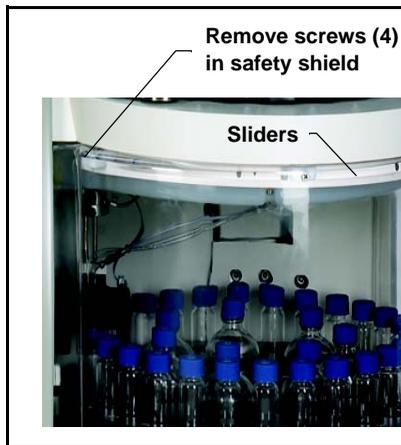

Figure 5-19. Removing the Safety Shield
4. Use a Phillips screwdriver to remove the four screws along the top of the safety shield (see Figure 5-19). (The screws attach the shield to the sliders.) Remove the safety shield and set it aside. **Do not move the sliders.**